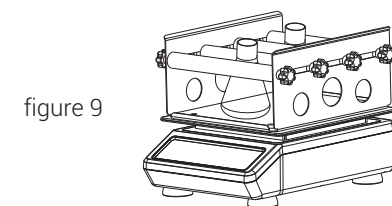

figure 9
4. Place conical flask between the wheels, adjust the position of the wheels to fasten the flasks, and tighten the fixed handle as shown in the figure 9.